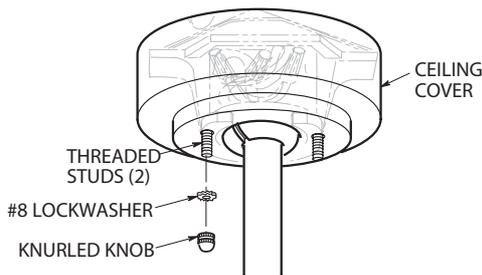

Figure 12
1. Screw the two 1-1/4" threaded studs (supplied) into the tapped holes in the hanger bracket (Figure 12).
2. Lift the ceiling cover up to the threaded studs and turn until studs protrude through the holes in the ceiling cover (Figure 12).
3. Secure the ceiling cover in place by sliding lockwashers over the threaded studs and installing the two knurled knobs (supplied) (Figure 12). Tighten the knurled knobs securely until the ceiling cover fits snugly against the ceiling. Your fan is now wired to be turned on and off from the wall switch.